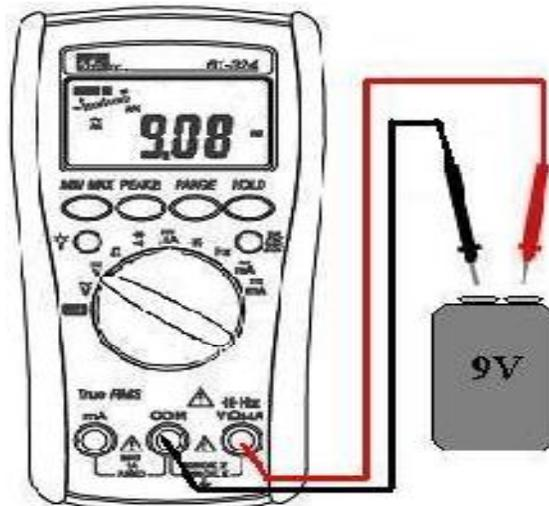

Figure 2.2: Test Leads Connected Across Component
- ✓ **CAUTION:** Voltage is measured ‘across’ a component as shown in Figure 2.2. Hence, the test probes must be positioned as such. More so, in case of Printed Circuit Board (PCB), use the chassis or screws as the ground, which means the black test probe should touch the chassis and the red test probe should touch the point under test and then observe the value which should correspond with the value written very close to the component being tested or in the circuit diagram.